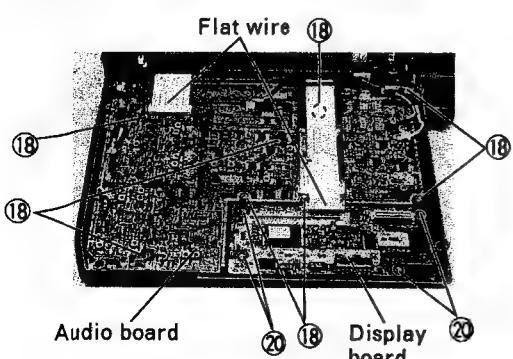

Fig. 1-2-3 Removal of Audio and Display board
- (1) Disconnect the flat wire (refer to Fig. 1-2-3).
- (2) Remove a screw ㉑ and take out the Mecha JUNC board.
- (3) Remove four screws ㉒ and take out the frame from the main-deck.
- (4) Remove five screws ㉓ and take out the board.